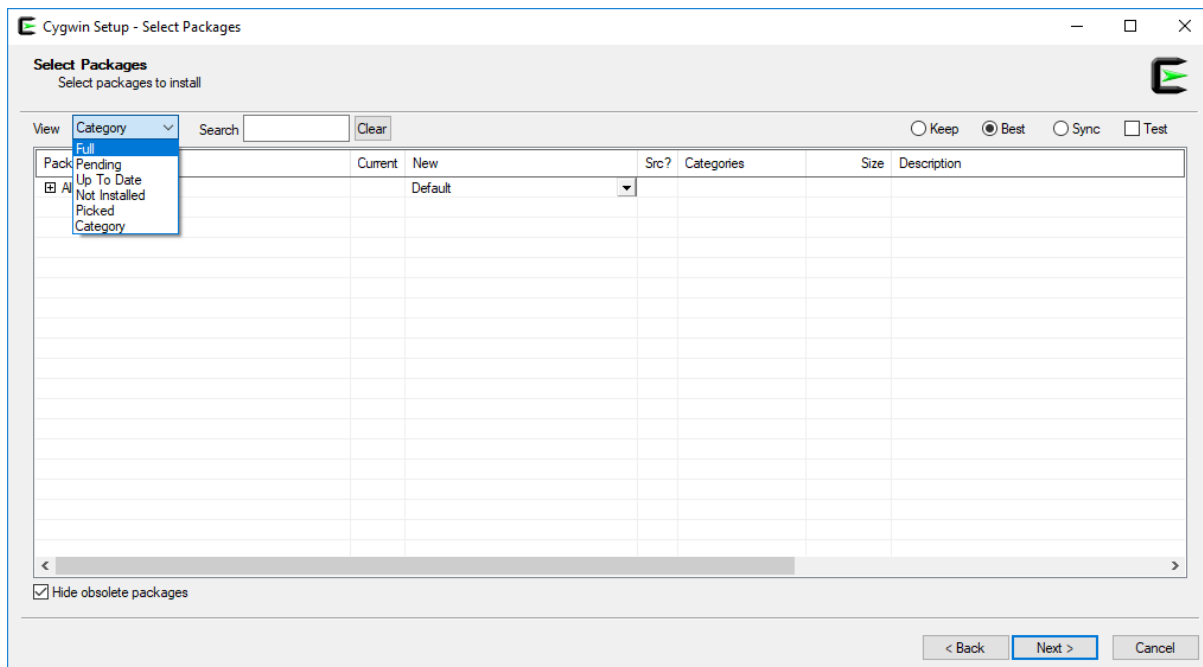

Figure 85. Select Packages window
3. After several steps, you will reach the **Select Packages** window (Figure 85). Select the **Full** view, as shown in Figure 85.